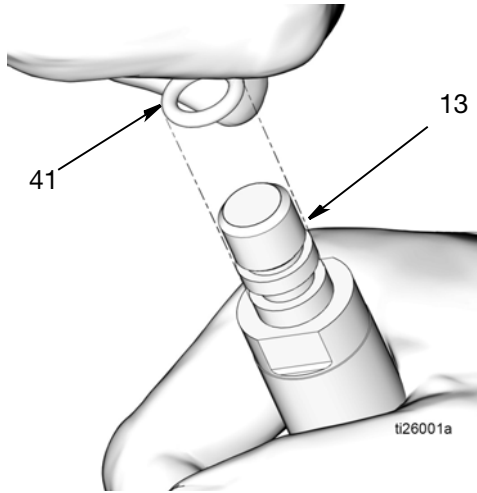

FIG. 20
- c. Remove o-ring (41) from the piston rod (13) (FIG. 20).